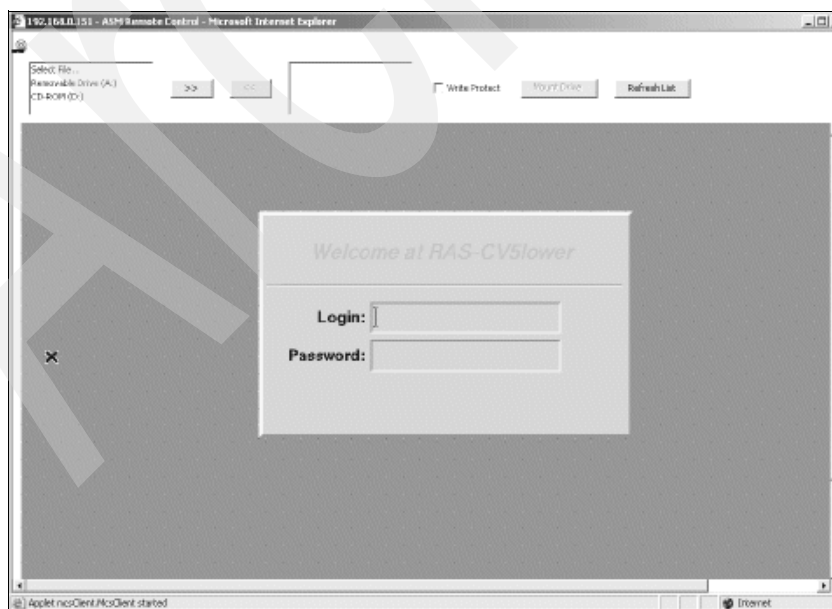

Figure 5-11 Remote Supervisor Adapter II: 3954 Model CV5 Login window
6. Now you can see the Remote Console for 3954-CV5 as shown Figure 5-11. Type the following default user ID and password.